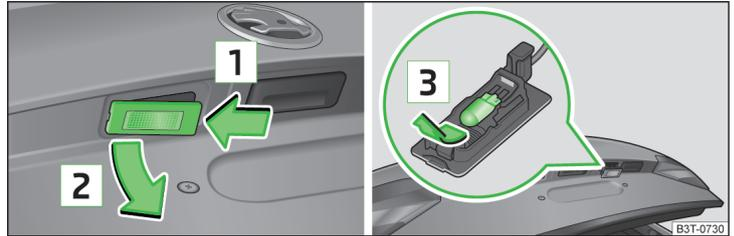

Fig. 208 Remove the number plate light/replace the bulb
- Push in the lamp in the direction of the arrow **1** » Fig. 208.